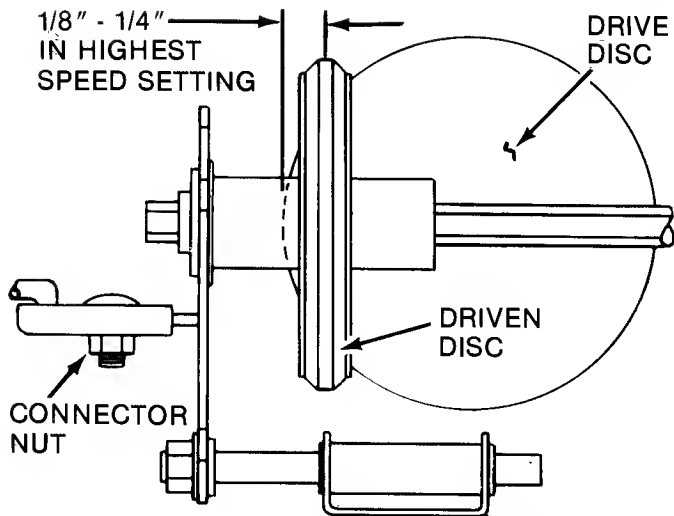

FIG. 16 - DRIVEN DISC COMPONENTS
**DRIVEN DISC ADJUSTMENT:** With the engine stopped and the speed lever shifted into highest speed setting, the driven disc should be 1/8" to 1/4" from the center of the drive disc as illustrated in Figure 16. Readjust with engine stopped as follows: Shift the speed selector into the highest speed setting, loosen the connector hex nut and slide the driven disc assembly inward or outward until the center is 1/8" to 1/4" from the edge of the drive disc. Retighten connector nut to lock at new setting.